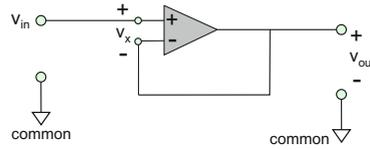

Fig. 5.13. Circuit diagram of the buffer amplifier; a dual power supply is used.
The third important member of the amplifier family is the *voltage follower* or *buffer* amplifier whose circuit is shown in Fig. 5.13. The negative feedback loop is just a wire.
so that the gain of this amplifier type is simply unity. Why do we need a unity-gain amplifier? The reason is that, while the buffer amplifier in Fig. 5.13 passes the voltage without change, it requires virtually no current at the input (virtually no input power) but, at the same time, could source a significant current (on the order of 20–40 mA) at the output, i.e., provide significant output power. In other words, it becomes in a certain sense a *power* amplifier. A simple example would be a capacitive sensor that cannot deliver currents on the order of 10 mA or even smaller currents; otherwise, the corresponding capacitor would immediately discharge. Such a sensor cannot directly be connected to an LED indicator that requires at least 10 mA. However, this sensor may deliver significant voltages, on the order of 1–5 V, which do not need to be amplified. The use of a buffer amplifier can nicely solve this connection problem. The above discussion directly leads us to the concept of *input resistance of the amplifier circuit* studied in the next section.
**Exercise 5.6:** Solve the voltage-follower circuit shown in Fig. 5.13, i.e., find the output voltage  $v_{\text{out}}$  with respect to common when the input voltage with respect to common is a) 1 V and b) 10 V. The amplifier is powered by a  $\pm 6$ -V dual supply.
The second summing-point constraint might appear to be mysterious, at least at first sight. How does the amplifier accept the input signal if there is no current at the input and the differential input voltage is zero? Can we avoid using the second SPC, and at what cost? We will show that the second SPC is nothing but a handy tool to solve the amplifier circuit with the negative feedback, with a high degree of accuracy. Mathematically, the second SPC gives a leading (and usually very accurate) term of what is known as an *asymptotic expansion* with regard to a small parameter, here the inverse open-loop gain  $A^{-1}$ . Let us now ignore the second SPC and derive the gain equation for the buffer amplifier exactly. A similar derivation for the non-inverting amplifier is given as a homework problem. Looking at Fig. 5.13, we conclude that  $v^- = v_{\text{out}}$  since the